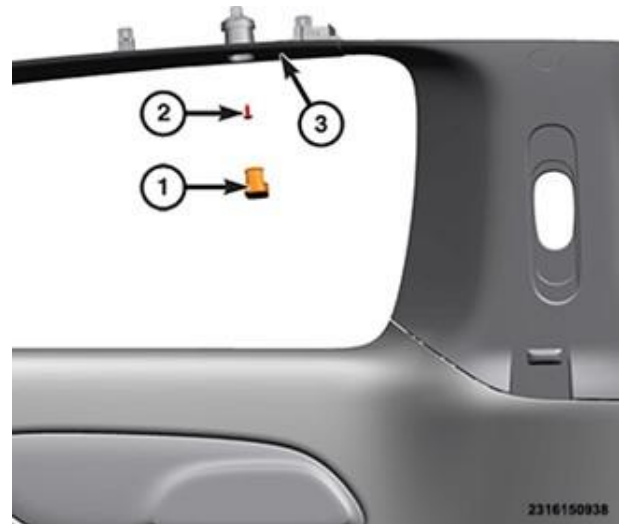

Figure 10 – C-Pillar Extension Trim
25. For LEFT side of vehicle open the coat hook and remove the screw from C-pillar extension trim (Figure 10).